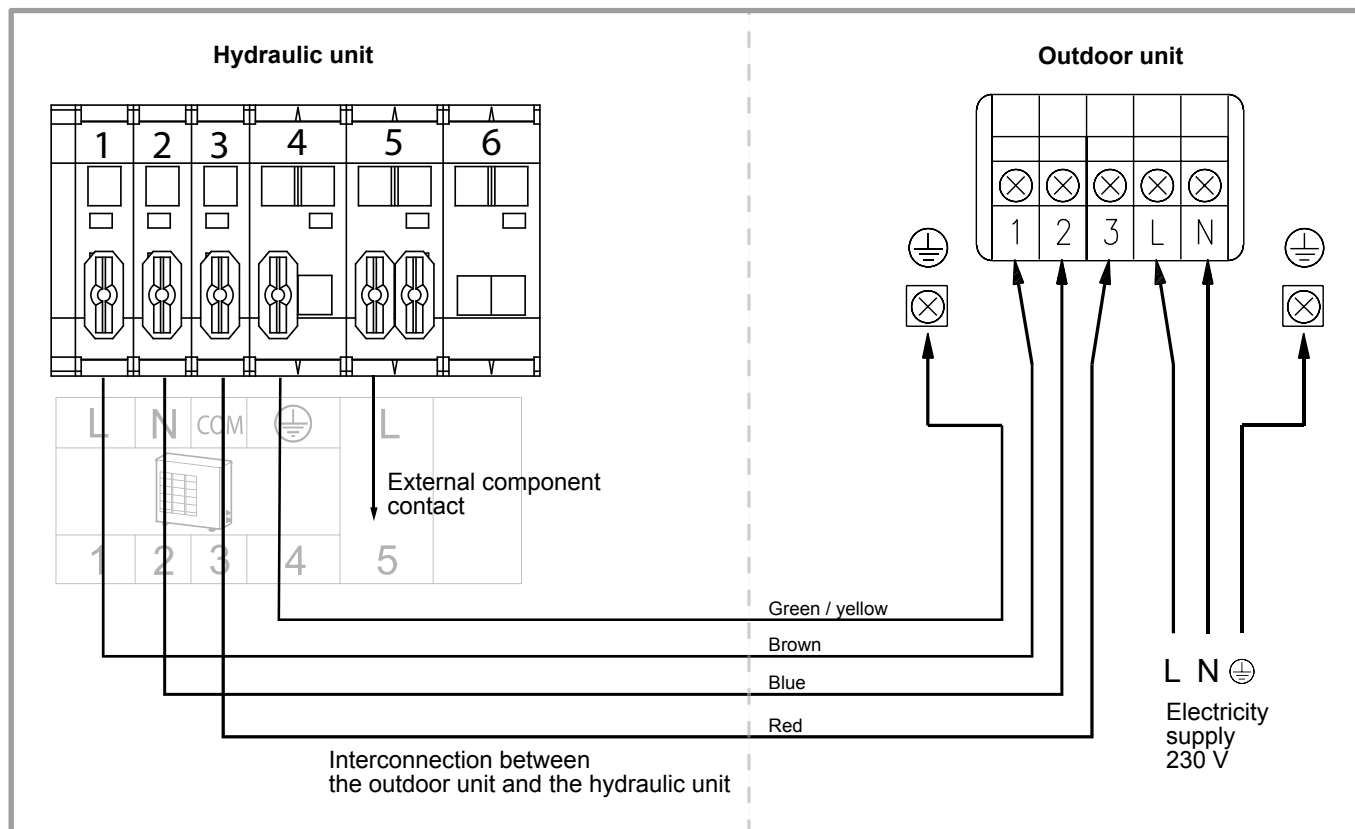

figure 30 - Connection to terminal block and power relays
- Fill in the space where the cables enter the outdoor unit with the insulating plate (figure 30).